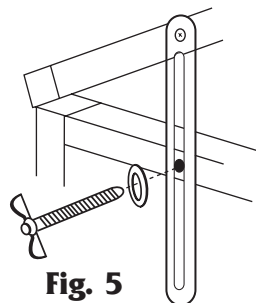

Fig. 5
- b. Pass the washers over bolts (F) and insert the bolts, from the outside, through the slots in the support arms and into the pre-drilled holes in the sides (C1 & C2). Screw in part way to secure it. (**See Fig 5**).